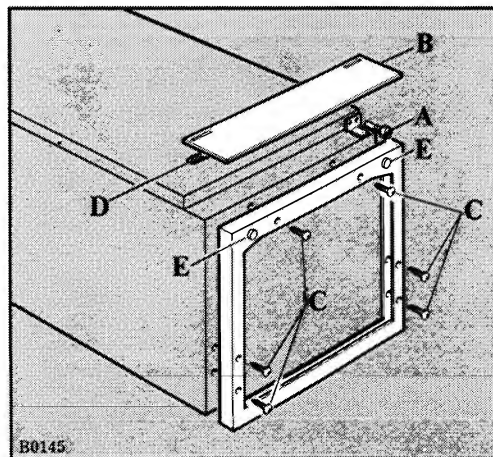

fig. 10
C. Adjusting the height of the appliance (Fig. 10)